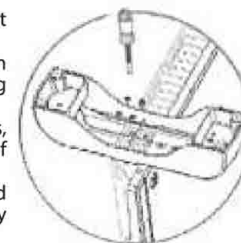

Fig. 7
**Leg mounting of the convector (Fig. 7)**